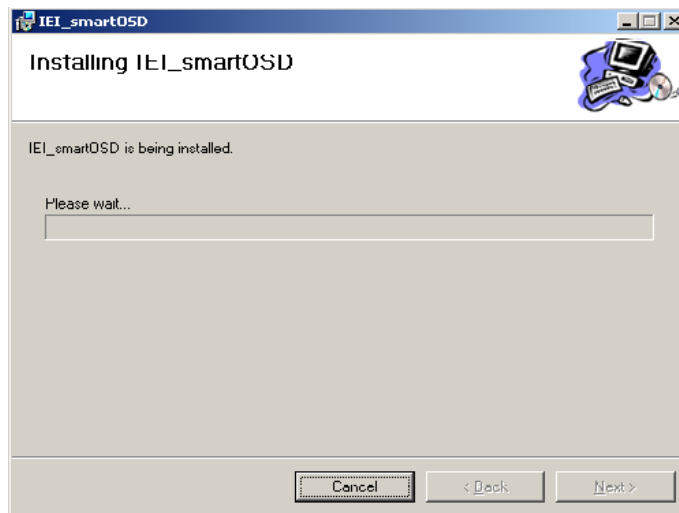

Figure 6-15: smartOSD Installation Progress
Step 10: The program starts to install and the progress bar shown in Figure 6-15 appears.